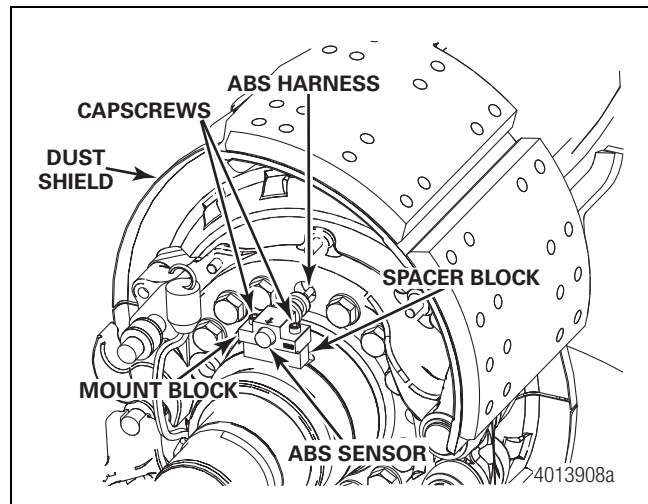

Figure 9.4
- 7. If you are servicing an axle equipped with an ABS sensor, remove the ABS sensor and mounting blocks as follows prior to brake assembly removal. Figure 9.4.